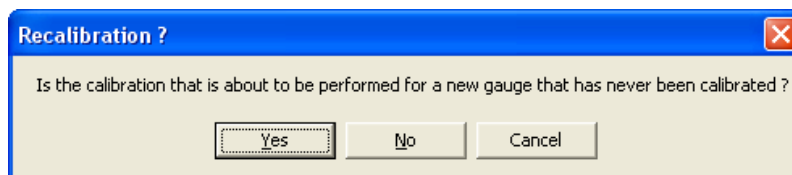

Figure 3–6. Recalibration Query Message Box
13. Return to the calibration computer. To begin the new calibration, select the **Start a new Model 3430/3440 Plus Calibration** radio button, then click **<Proceed>**. The gauge performs a security check as described on page 3–2. After the security check is passed, if an unfinished calibration is in the gauge memory, a warning screen is displayed. Otherwise, the **Recalibration?** message box (see Figure 3–6) is displayed.